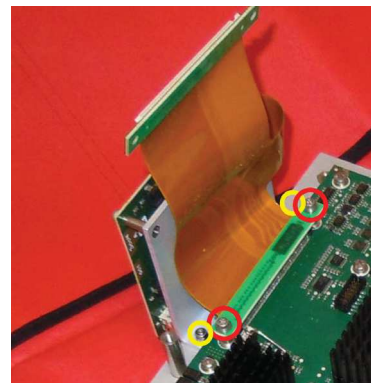

Fig. 7.13 Removal of PCB
- 7 Remove two screws and two nuts holding the connector and the support angle, respectively. See Fig. 7.13 \(p. 120\) - red circles indicate two screws on connector (tools 1/7), yellow circles indicate the two nuts holding the support angle (tools 1/2).